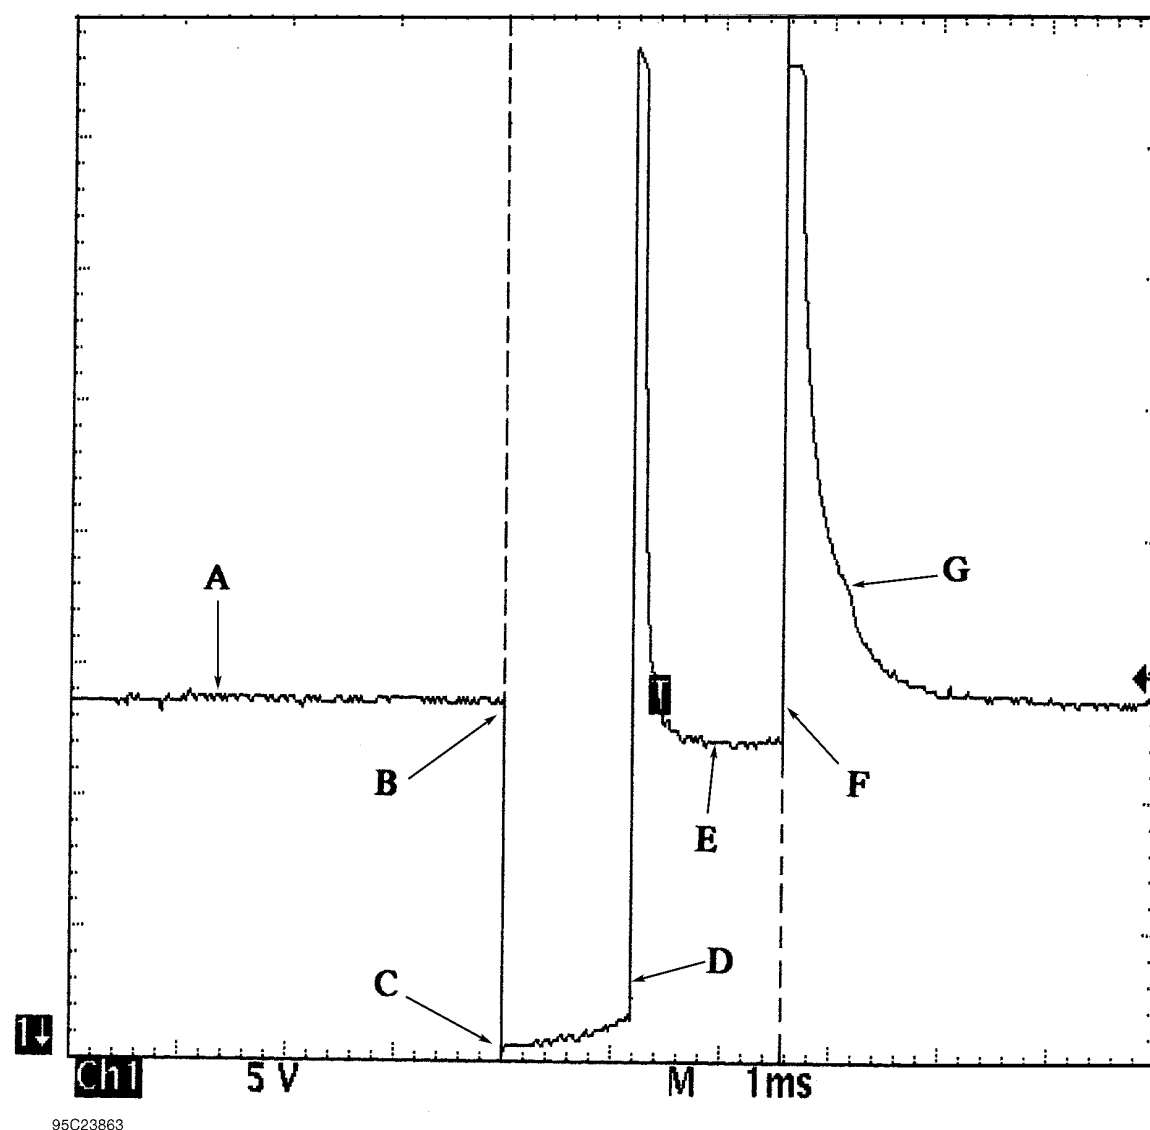

Fig. 3: Identifying Current Controlled Type Injector Pattern
- See Fig. 3 for pattern that the following text describes.